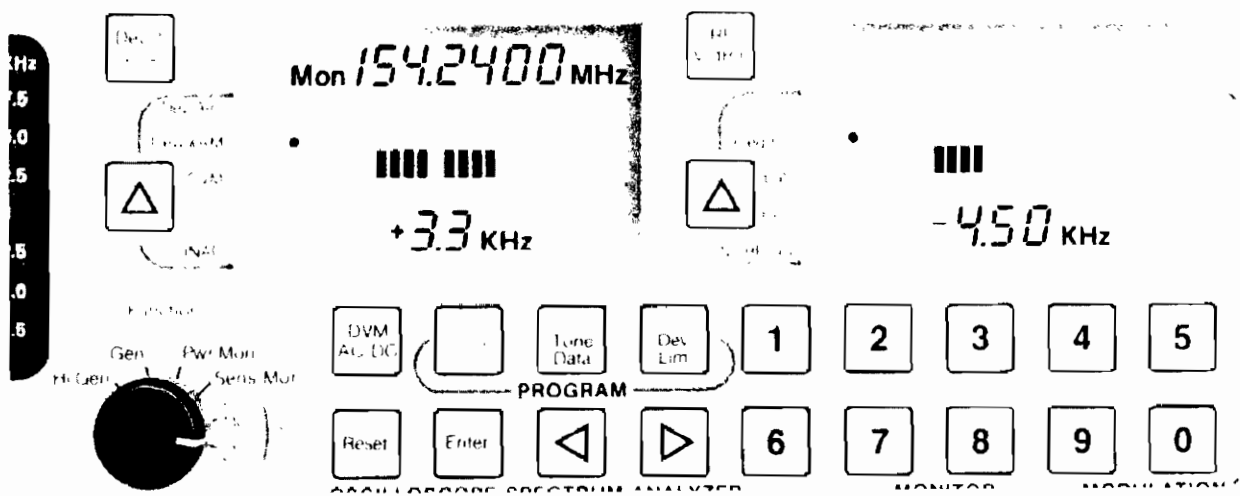

FIGURE 3-2—CLOSE-UP OF LCD'S AND MEMBRANE KEYBOARD
**3.3.1.1 ANALOG METER BARS/DIGITAL DISPLAYS** As shown in fig. 3-2 the LCD's provide autoranging analog and digital displays. Digital displays provide accuracy and autoranging meter bars assist during peaking and dipping maintenance adjustments. To provide efficient operation the digital readouts of selected modes